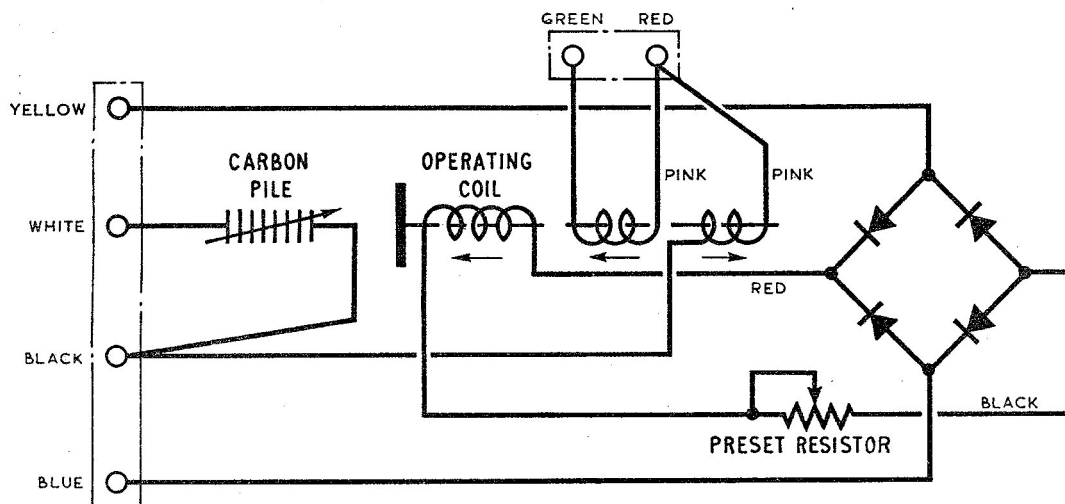

Fig. 1. Circuit diagram
3. Six terminals are provided instead of the normal four, the connections being arranged so that the regulator can be used without the stabilizing feature by omitting the red and green terminals. It is very important that the regulator be connected so that the polarity is correct, as shown in fig. 1.
4. The regulator incorporates a pile 1.5 in. long, made up of a minimum of 76 washers 0.5 mm. thick. A circuit diagram is given in fig. 1, and general information on this type of regulator will be found in A.P.4343, Vol. 1, Sect. 6, Chap. 2.